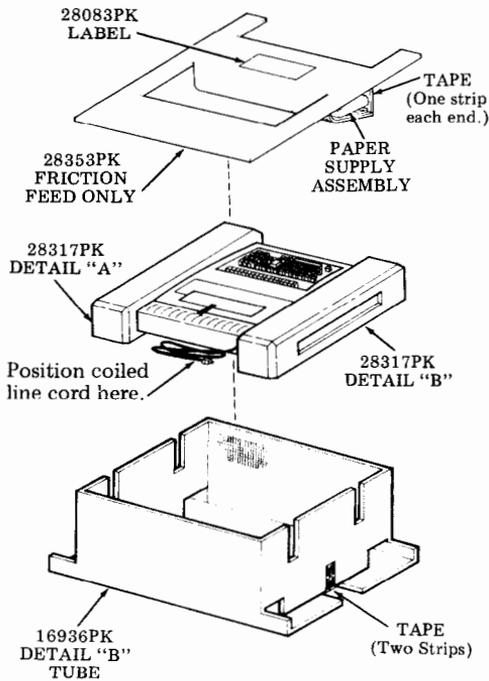

Fig. 11
4.12 Form a 16936PK Detail "B" into a tube. Tightly tape flaps on bottom of Detail with two strips of tape (Fig. 11).